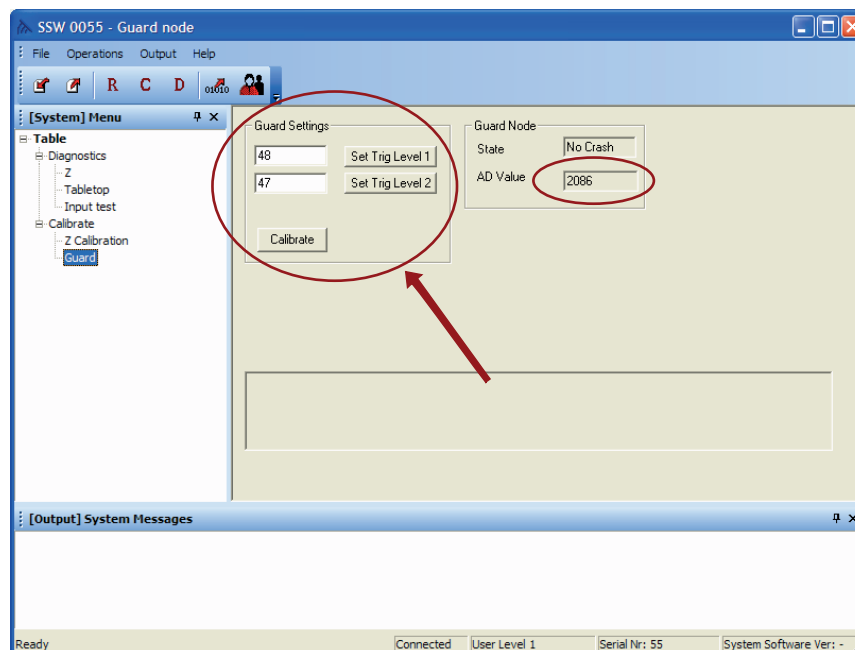

Fig. 4-158 Guard Setting
3. Check the value displayed in the *AD value Edit* box. The value shall be 2500 +/-500, see Fig. 4-158 *Guard Setting*.
5. If necessary adjust the trig levels by entering a new value Guard settings Edit boxes and pressing the coherent button (Set Trig level 1 and/or Set Trig level 2) see Fig. 4-158 *Guard Setting*. 2-3 points are approximately 10N.